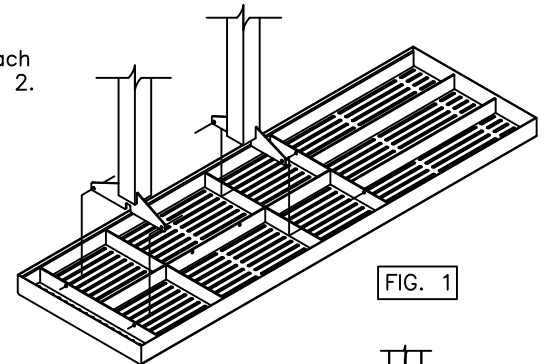

FIG. 1
Invert the (A-) top so it's upside down on a flat surface. Attach both of the (C2) or (C4) to the inside of the top's mounting brackets, see FIG. 1. Use two, per each leg, (G) and (I) using two (H) and one (J) per (G). Draw the fasteners to a snug fit with wrenches.